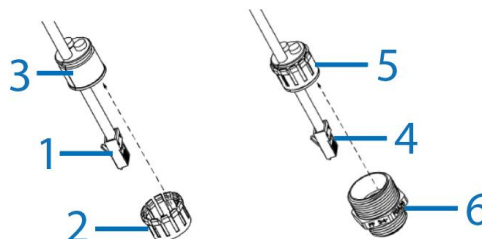

Figure 6
12. Insert all cables (4) (Figure 6) and plastic ring (5) (Figure 6) into the threaded connector (6) (Figure 6).
11. Insert all cables (1) (Figure 6) through the plastic ring (2) (Figure 6) and then insert the rubber insert (3) (Figure 6) into the plastic ring.